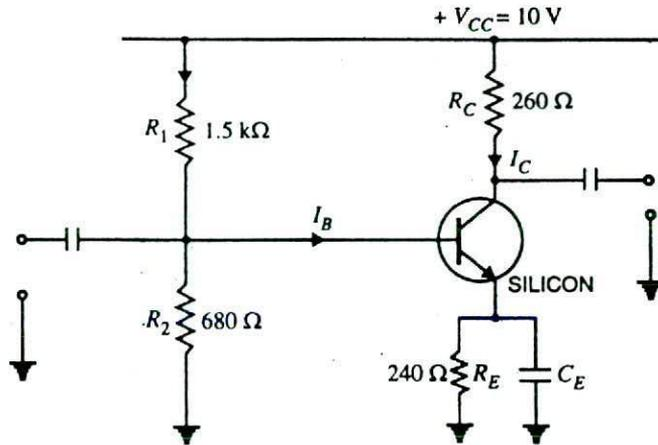

Fig.11.27
**Example 11.22.** Find the value of  $I_B$  for the circuit shown in Fig. 11.27. Given that  $\beta$  has a range of 100 to 400 when  $I_C = 10 \text{ mA}$ .